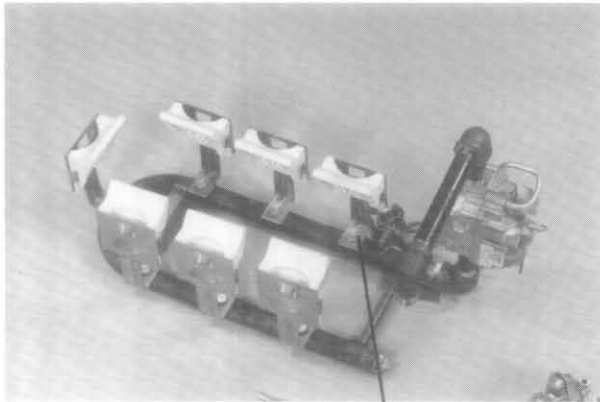

Fig. 12
- Using a 1/2 in. box end wrench or socket and ratchet, remove the 2 brass orifices that hold the target bracket to the burner manifold. See Figure 12.